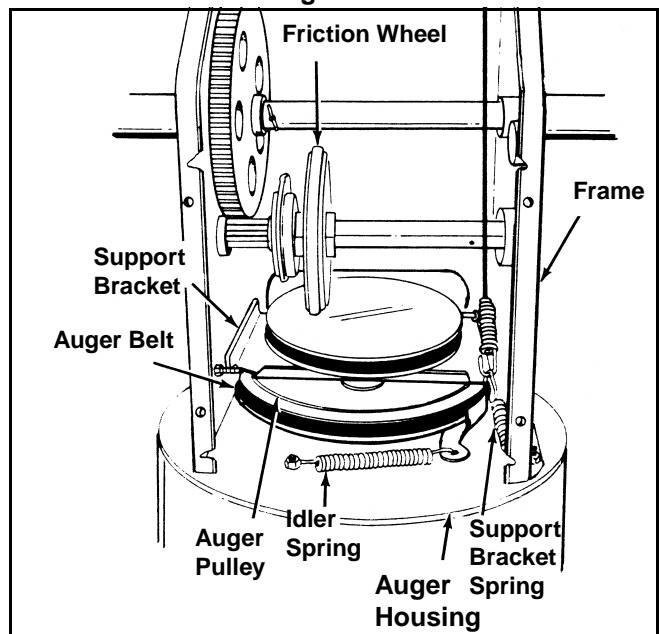

Figure 19
- Unhook the idler spring from the hex bolt on the auger housing. See Figure 19.